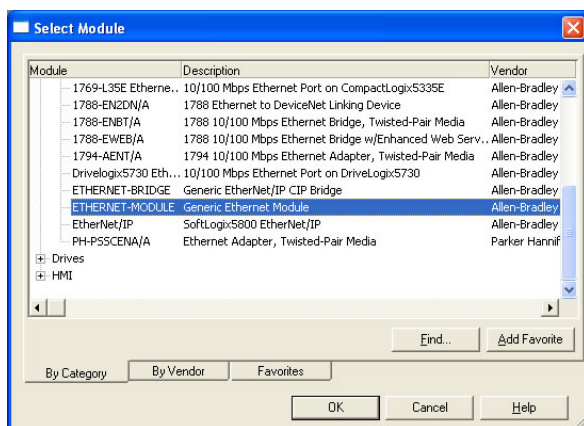

Figure 77: Adding a New Generic Ethernet Module
- 3) Choose "Generic Ethernet Module" in the Select Module dialog box and click "OK". Refer to Figure 77.